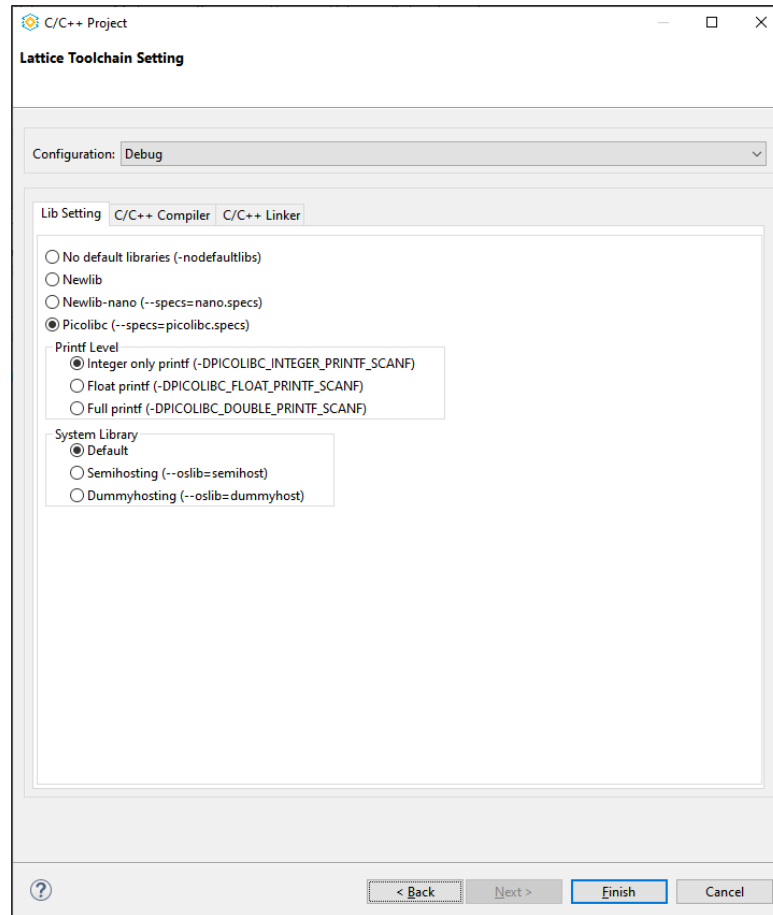

Figure 2.120. Create C/C++ Project
- Click **Next**. The C/C++ project dialog (Figure 2.120) opens.